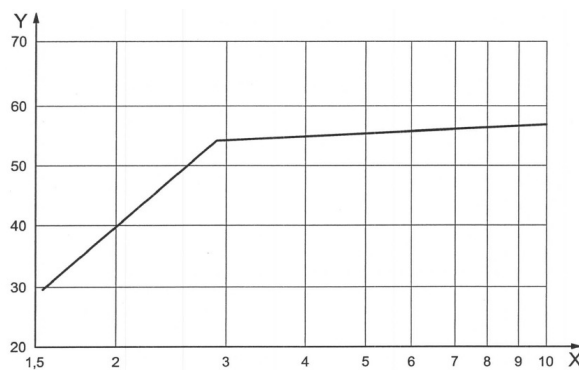

Figure 6.5.4.2-1: Sound pressure level at 30m (100ft) from the stack tip ( $Y = L_{30 (100)}$ )
Figure 6.5.4.2-1 illustrates the noise intensity measured as the sound pressure level  $Y$  at 30 m/100 ft ( $Y = L_{30 (100)}$ ) from the stack tip versus the pressure ratio PR (= X) across the safety valve.
LESER Note: The above figure 6.5.4.2-1 from API 521 is limited to the maximum  $PR_{max} = 10$ . Therefore VALVESTAR® does not show results for  $PR > 10$ .